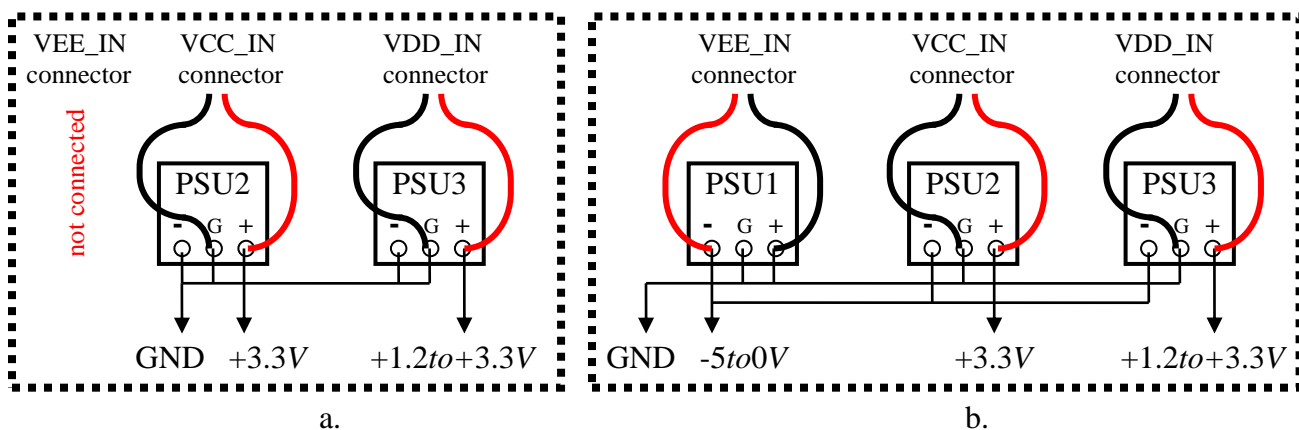

Fig. 3. Grounded Supply Configuration (a) and Floating Supply Configuration (b)
- The board requires either two, or three external power supplies as shown in Fig. 3, depending on the SPI supply polarity on the controllable PCB.
5. Connect the supply unit's output pins to the PCB's white 2-pin Molex connectors as shown in Fig. 3.